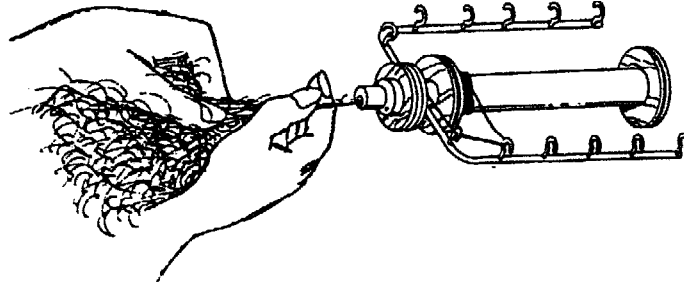

Figure 6.1 – Spinning: position of your hands
- Keep both hands in line with the *orifice* (figure 6.1).